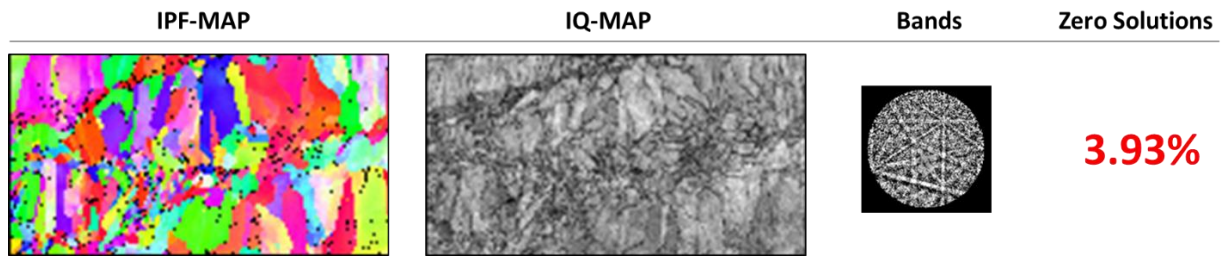

Figure 1. Initial EBSD results in the as prepared condition
Initial work whilst appearing to show a good surface finish optically produced an EBSD map with 3.93% zero solutions (Hit rate = 96.07%) as seen in Figure 1 below, highlighting the Inverse-Pole Figure (IPF) map, Image Quality (IQ) map, and Kikuchi bands.